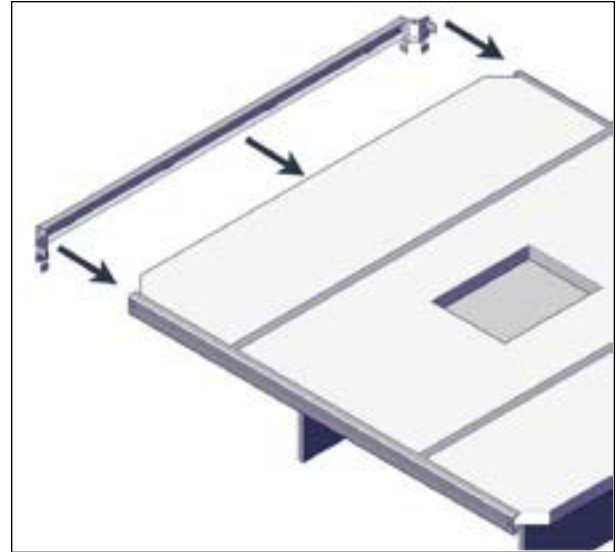

FIGURE 43: CORNER AND CHANNEL INSTALLATION
6. On one end of the cover, slide on corner brackets and C- channel assembly see Figure 43. It is recommended to slightly engage the top flange before the bottom when sliding the C-Channel onto the foam panel.